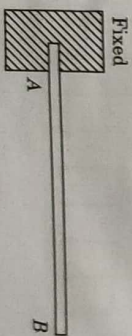

Fig. 25.1
**Cantilever Beam.** It is a beam which is fixed at one end (A) and free at the other end (B). There is no deflection or rotation at fixed end. (Fig. 25.1)